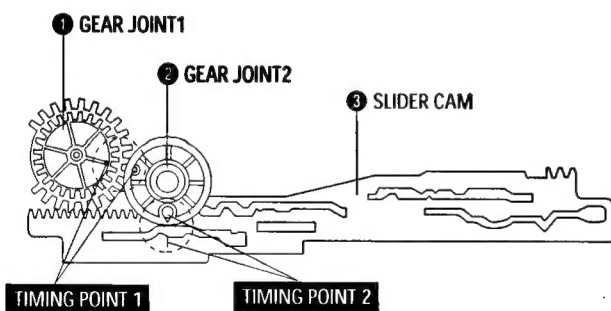

Fig. 1-12 Gear Joint 1,2 Assembly
- 1) Be sure to align dot mark of Gear Joint 1 ❶ with dot mark of Gear Joint 2 ❷ as shown Fig 1-12. (Refer to Timing point1)
- 2) Confirm the Timing Point 2 of the Gear Joint 2 ❷ and Slider Cam ❸.